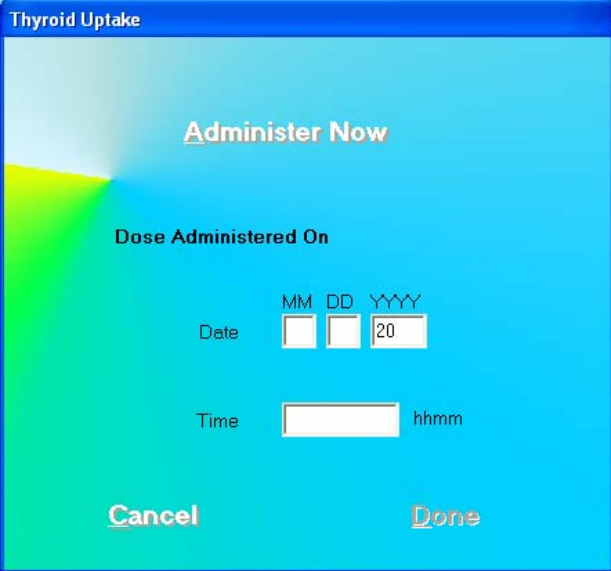

Figure 7-26
1. Click the **Administer Dose** button or press *Alt+A* from Figure 7-1 Main Thyroid Uptake Screen. The screen appears as shown in Figure 7-26.